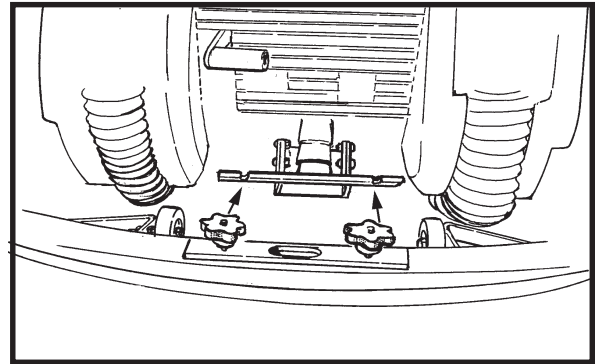

Figure 9
1. Remove the squeegee assembly by loosening the two knobs that attach the squeegee to the machine. Pull the squeegee assembly off. See figure 9.